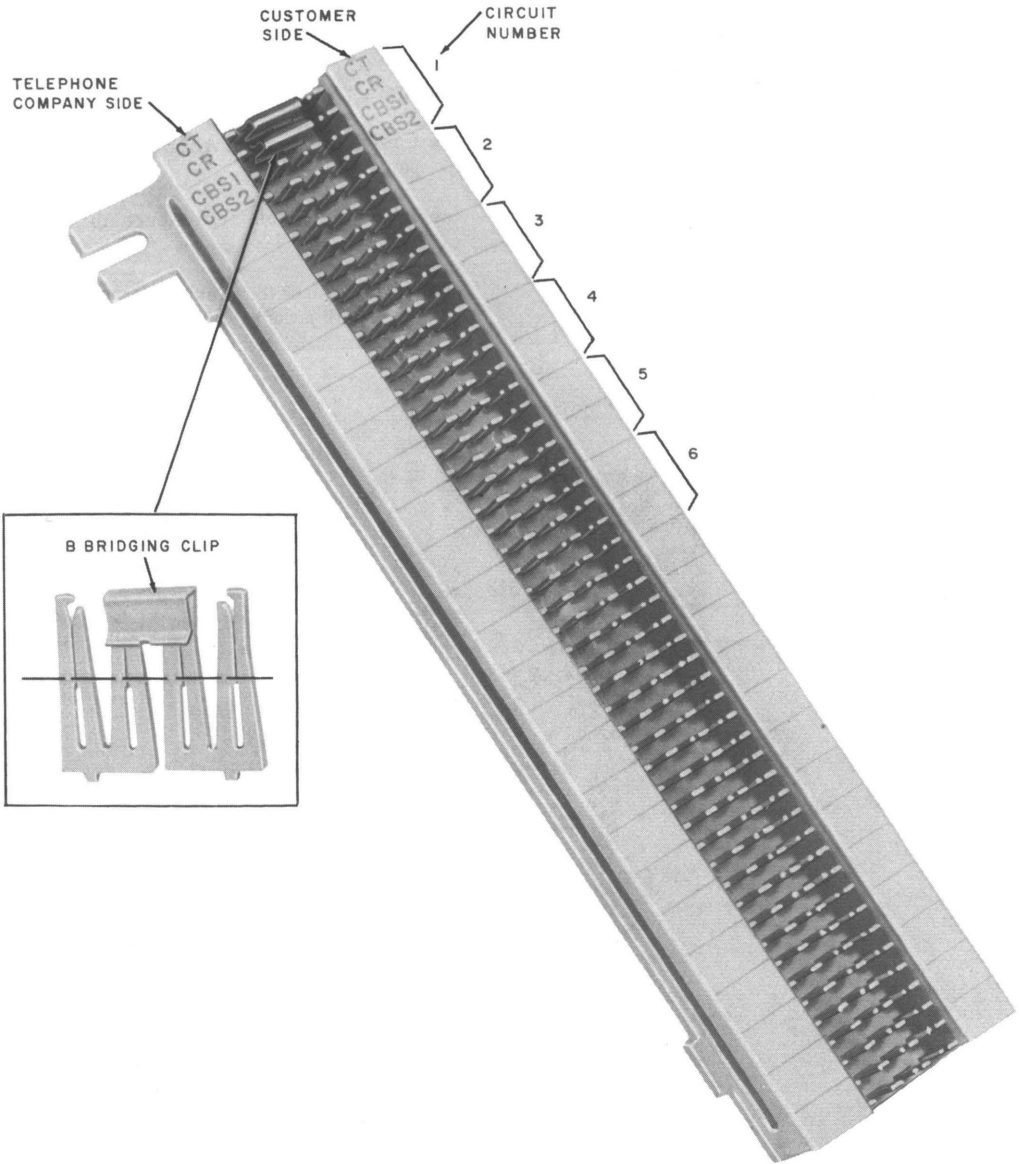

Fig. 2—66M1-50 Interface Connecting Block
- Block, Connecting, 66M1-50 (Fig. 2).